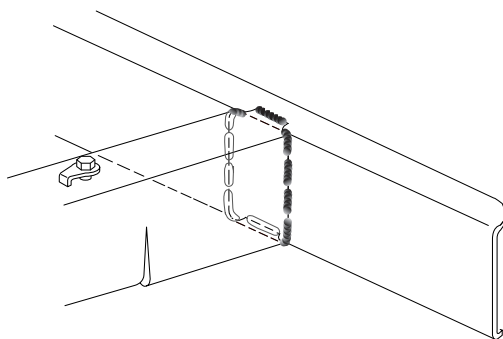

Fig. 3.3 — Note Location of Welds for Reinstallation
- 4 Cut the welds around the perimeter of the frame rail (fishmouth) ends (Fig. 3.3). Cut welds favoring the impact bar side of the joint. DO NOT cut into the frame rails.